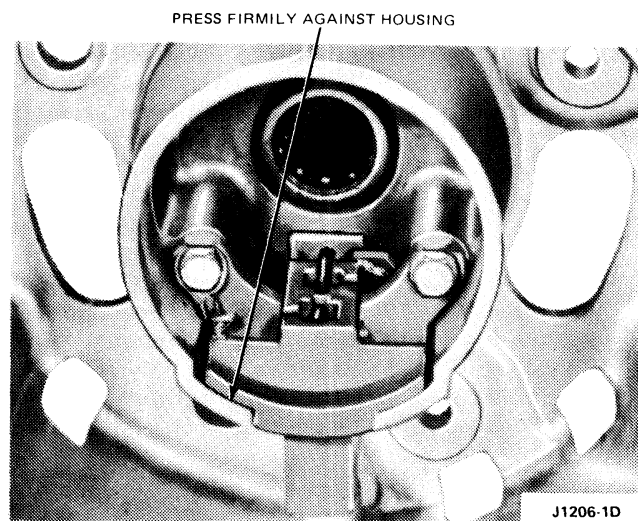

FIG. 9 Brush Lead Positions
8. Position the brush holder assembly in the rear housing and install the mounting screws. Position the brush leads in the brush holder as shown in Fig. 9.